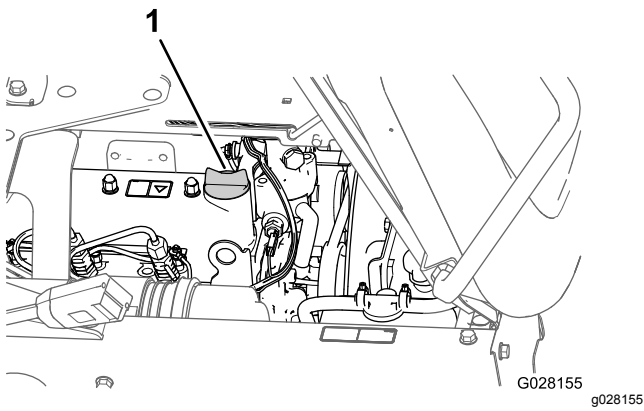

Figure 71
3. If the oil level is low, remove the filler cap from the valve cover and pour oil into the filler neck until the oil level is up to the Full mark on the dipstick (Figure 71).